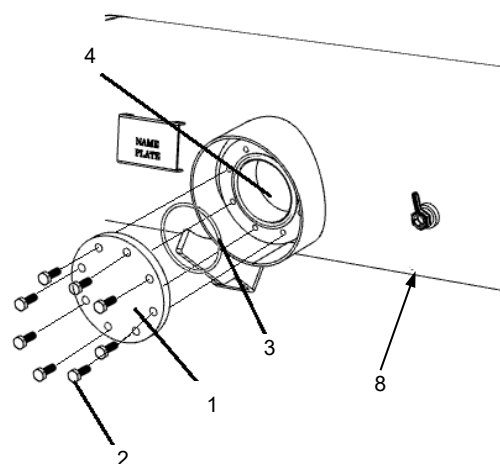

Figure 1:
4. Remove Fuel Tank (8) Access Cover (1) Retaining Bolts (2). *Figure 1*
5. Remove Fuel Tank Access Cover (1). *Figure 1*
6. Remove Fuel Tank Access Cover (1) O-ring (3). *Figure 1*
10. Remove Fuel Pump Assembly from Tank (8) through Access Opening (4). *Figures 1 & 2*
1. Install new Fuel Pump (10) into Fuel Tank (8) through Access Opening (4). *Figures 1 & 2*
5. Install new Fuel Tank Access Cover O-ring (3). *Figure 1*